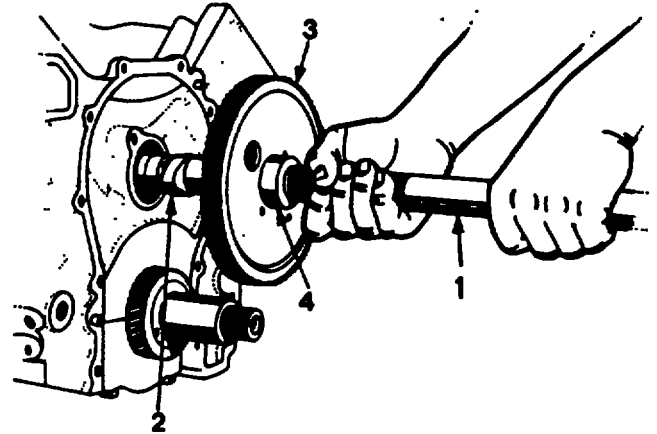

Figure 132. Installing Camshaft, Gear and Spacer as an Assembly
- a. Install installer tool SE-1880 on threads of camshaft (Figure 132).
- c. Insert camshaft (with gear and spacer into cylinder block (Figure 132).